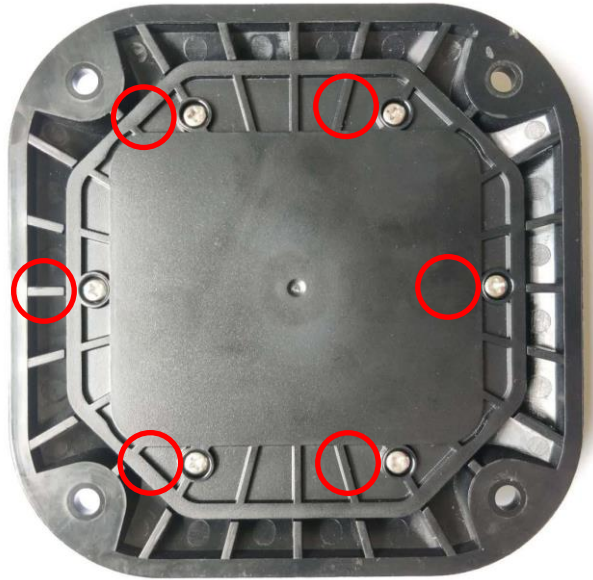

Figure 1
**Step 1:** Unscrew the six screws of the rear lock cover on the back of the device with a screwdriver as the red area in Figure 1.